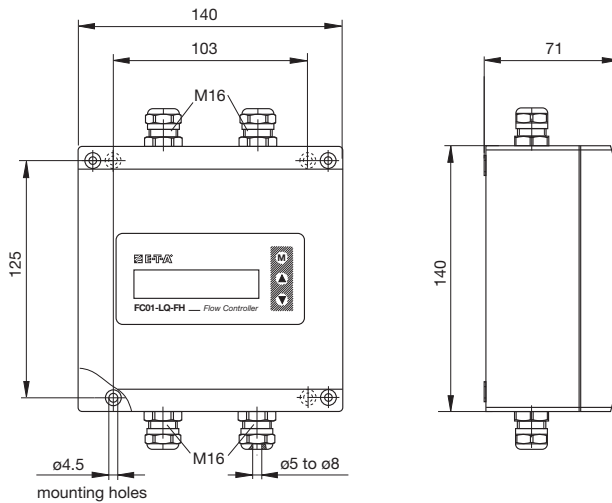

fig. 12
- Install the housing in place using the 4 self-taping screws M4 (see fig. 12).